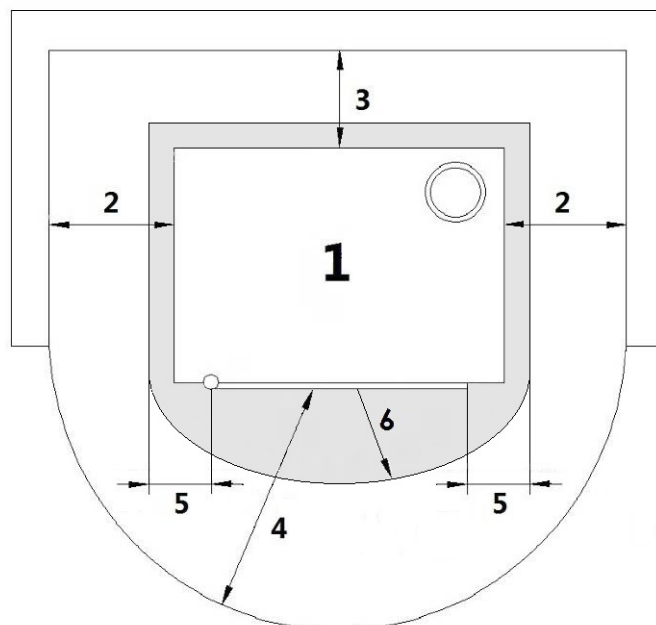

Fig. 24 - General installation
- In case od apart installed stove, it must be detached from possible walls and/or pieces of furniture, with a minimum air flow at the sides and at the back in order to allow an appliance cooling and a good distribution of heat in the environment (see **Fig. 24 page 23**).
- For fire regulations distances from flammable or sensible to heat materials must be respected (sofas, pieces of furniture, wood coatings etc...) as described in **Fig. 24 page 23**.